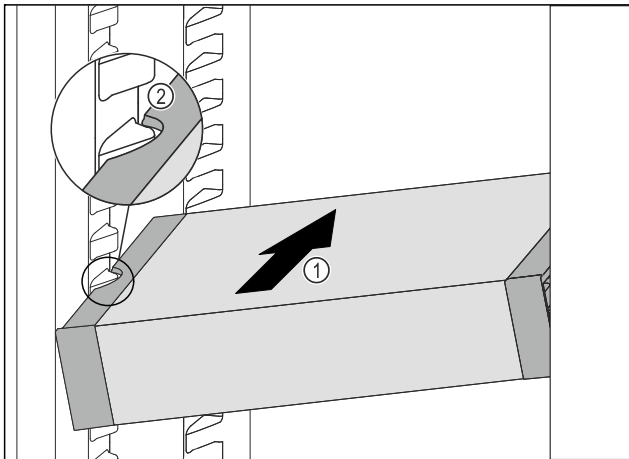

Fig. 99
- ▶ Insert the VarioSafe into the fridge section at an angle Fig. 99 (1) until the recesses in the side Fig. 99 (2) of the VarioSafe are at the level of the support rib in the fridge section.